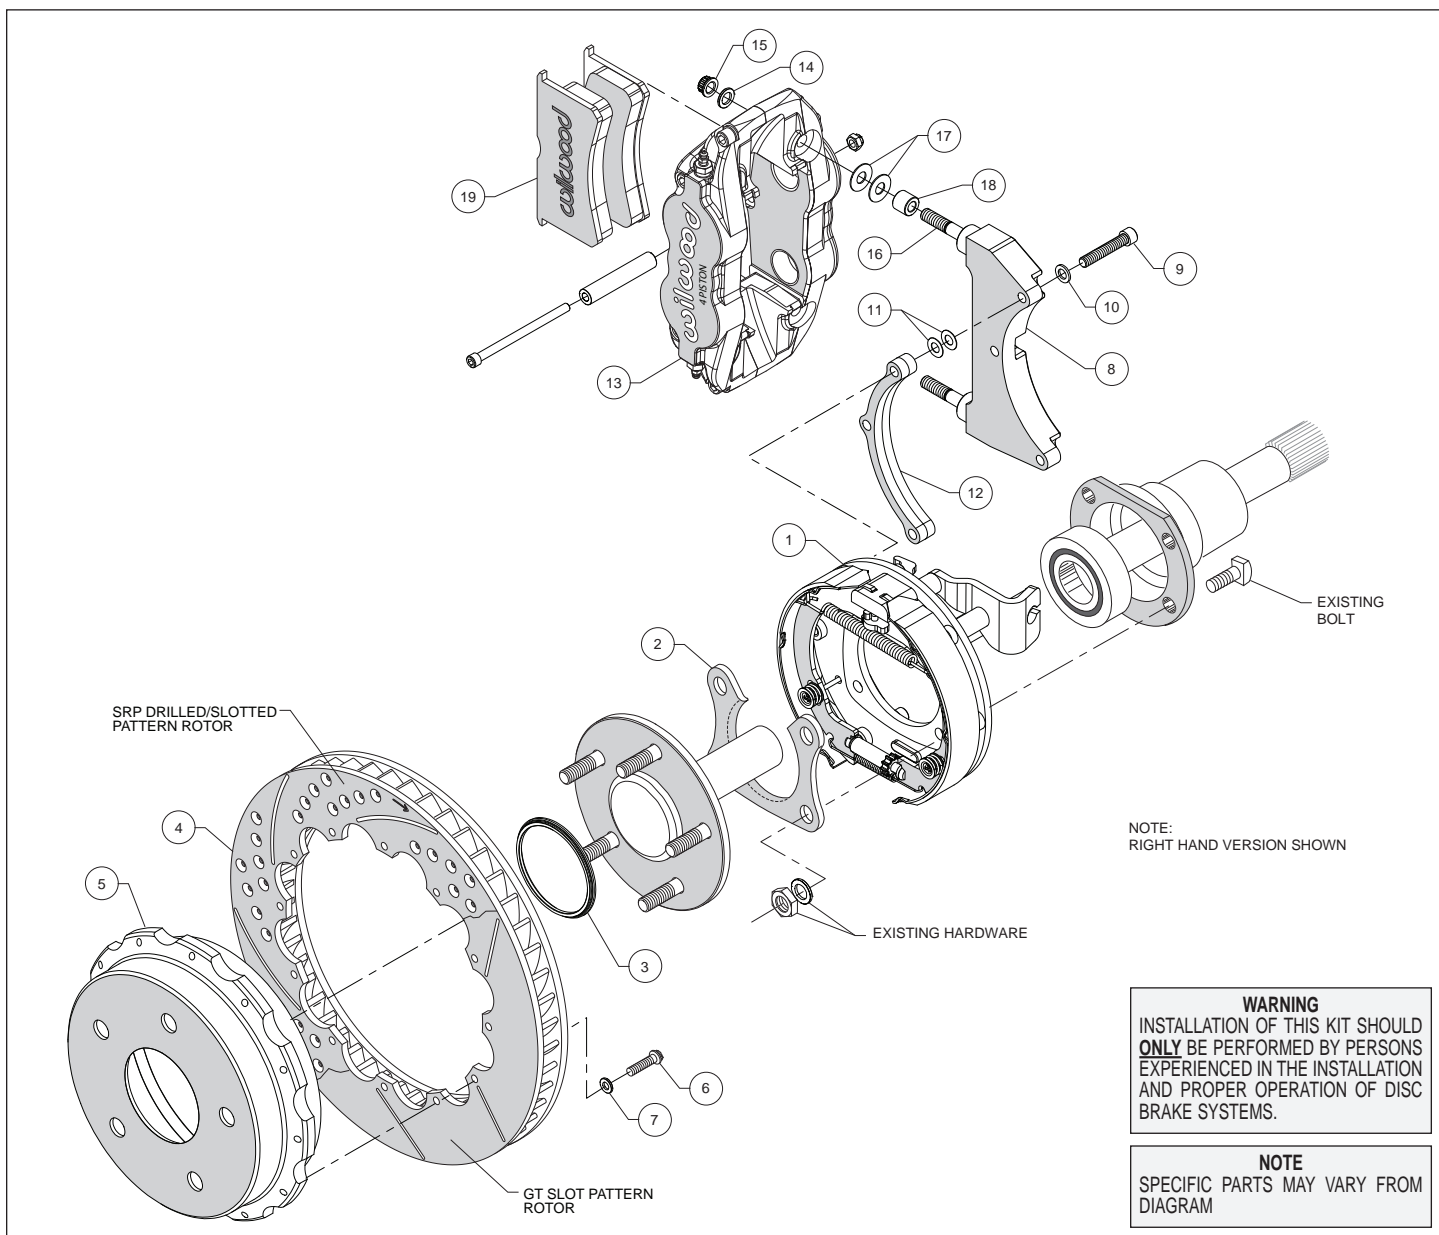
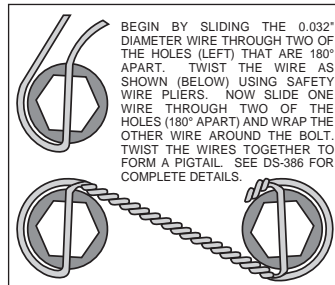

Figure 1. Typical Installation Configuration
Figure 5. Safety Wire Diagram
Assembly Instructions (numbers in parenthesis refer to the parts list, and Figure 1 on the preceding pages): **CAUTION:** All mounting bolts must fully engage clinch nuts. Be sure to check that all bolts are either flush or protruding through flanged side of clinch nut after shiming.
- Orient the bracket assembly (1) as shown in Figure 1 and Photo 1 and slide it onto the axle. Insert the axle and bracket into the axle housing. Ensure that the bracket assembly backing plate fits flush against the axle housing flange.
- Install the bearing retainer (2) with the opening pointing upward and the lip facing inward (toward the bearing), as shown in Figures 1 and 4, and Photo 2. Secure retainer and bracket assembly to the axle housing flange using the Original Equipment Manufacturer (OEM) bolts, washers, and nuts, Figure 1. Apply red *Loctite*® 271 to the OEM bolt threads and torque to OEM specifications.
•**NOTE:** Please reference the caution statement at the beginning of the assembly instructions. The caliper mounting bracket (8) should initially be installed with clean, dry threads on the mounting bolts. Orient the bracket as shown in Figure 1 and Photo 3, and install using bolts (9) and flat washers (10). Initially place two .015" shim washers (11) on each bolt between the bracket (8) and spacer (12), Figure 1. Temporarily tighten the mounting bolts. **NOTE:** End of bolt should not exceed inside face of insert. The bracket must tighten squarely against the back side of the bracket kit assembly (1). Inspect for interference from casting irregularities, machining ridges, burrs, etc. Later, after the caliper alignment has been checked, the mount bolts will be secured using red *Loctite*[®].
•Orient the rotor (4) and the hat (5) as shown in Figure 1 and Photo 4. Attach rotor to hat using bolts (6) and washers (7). Using an alternating sequence, apply red *Loctite*[®] 271 to the threads, and torque to 140 **in-lbs**. For an added measure of security, the bolts may be safety wired using standard 0.032 inch diameter stainless steel safety wire as shown in Figure 5. Please refer to Wilwood's data sheet DS-386 (available at www.wilwood.com/Pdf/DataSheets/ds386.pdf) for complete safety wire installation instructions.
•Slide the rotor registration adapter (3) onto the axle register on the axle flange with the smaller O.D. facing toward the rotor/hat (4/5), Photo 5. Align the hole pattern in the hat with the stud pattern on the axle flange and slide into place, Figure 1 and Photo 6. **NOTE:** The rotor/hat must fit flush against the axle flange or excessive rotor run out may result. Install three lug nuts (finger tight) to keep the rotor/hat assembly in place while continuing with the installation. **NOTE:** Some OEM and after market axles come with stud sizes larger than 0.50" diameter. Verify stud size and have a qualified machine shop drill the bolt circle of the hat/rotor to the correct stud size, if necessary.
•Lubricate the caliper mounting studs (16) with lightweight oil. Initially place two .035" thick shims (17) and spacer (18) on each stud as shown in Figure 1 and Photo 7. Mount the caliper (13) onto the bracket (8) using lock nuts (15) and washers (14), Figure 1. Temporarily tighten the lock nuts and view the rotor through the top opening of the caliper. The rotor should be centered in the caliper, Photo 8. If not, adjust by adding or subtracting shims (11) between the bracket (8) and the spacer (12). Always use the same amount of shims on each of the three mounting bolts. Once the caliper alignment is correct, remove the bracket mounting bolts (9) one at a time, apply red *Loctite*[®] 271 to the threads, and torque to 180 **in-lb**.